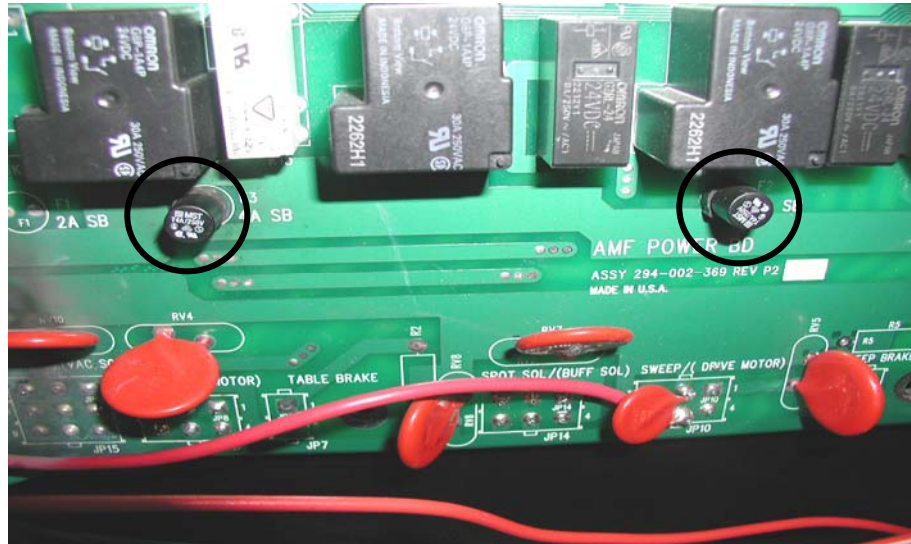

Figure 3-25
- Carefully lift the top off the control enclosure. The two fuses for the solenoids are located on the circuit board, as shown in Figure 3-25. The left fuse is for the Vac Head solenoid. The right fuse is for the two buffer solenoids.